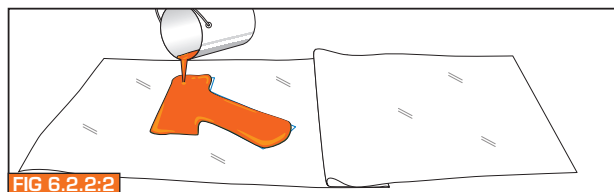

FIG 6.2.2:2
3. Place the branch pipe inside the contours and pour the remainder of the epoxy on the branch pipe. **FIG 6.2.2:3**